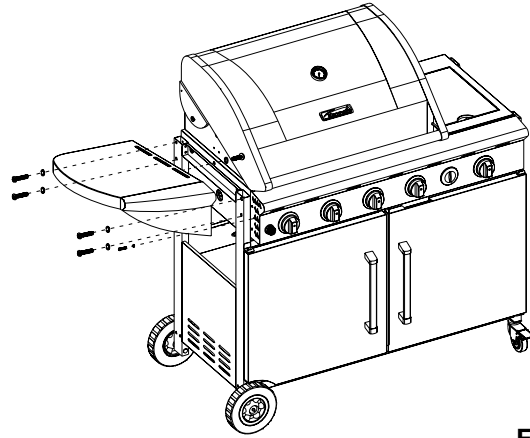

Figure 15
1. Attach left side shelf to cart leg using (5) 1/4 x 1/2" Phillips head screws and (5) 1/4" lock washers. Then use (1) s.s. 5/32 x 3/8" Phillips head screw and (1) 5/32" lock washer preinstall on control panel to attach side burner control panel to main control panel. (Fig.15)